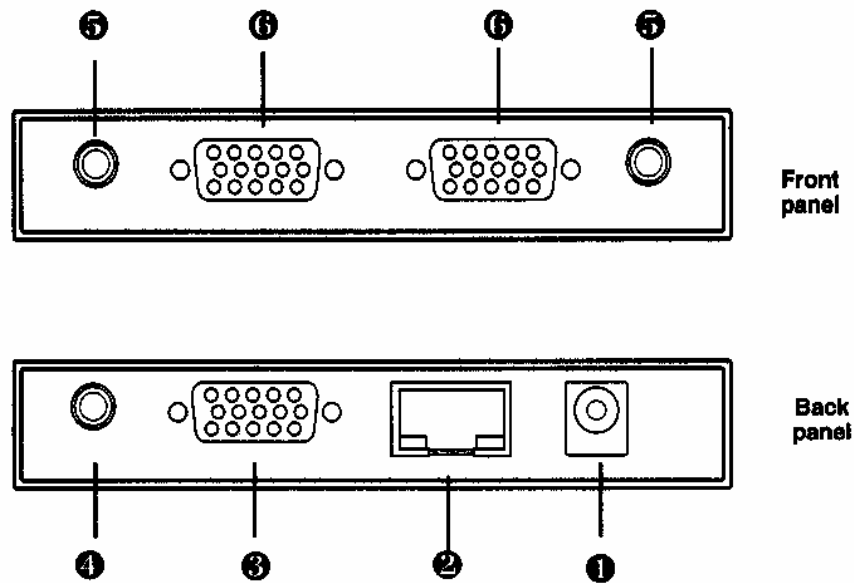
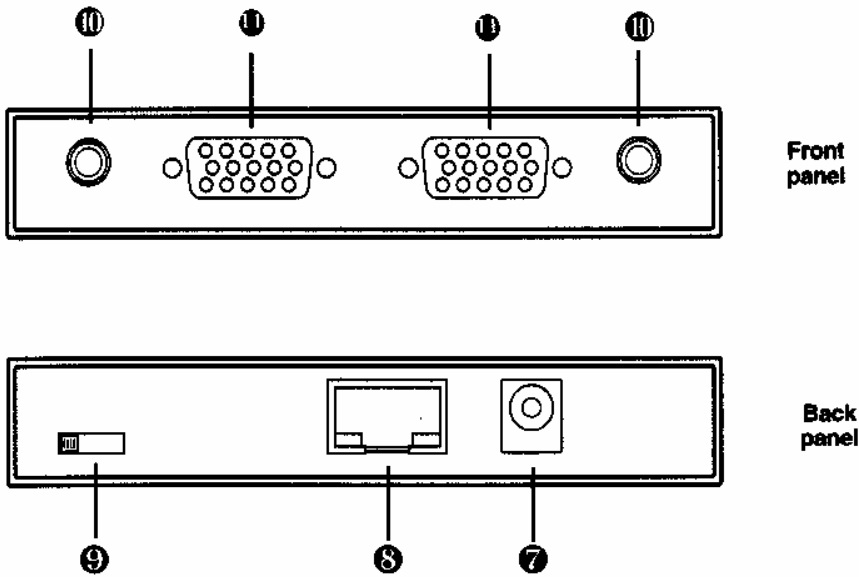

Figure 2-1. VGA Extender with Audio, local unit.
Figure 2-2. VGA Extender with Audio, remote unit.
The AC556A local and remote units are pictured in Figures 2-1 and 2-2. Tables 2-1 and 2-2 list the descriptions identified by the circled numbers in Figures 2-1 and 2-2.
You'll need one local and one remote unit (both are included), a VGA source such as a monitor (not included), Category 5, 5e, or 6 cable (not included), and power supplies (one for each unit, included). Follow the steps listed on the next page and refer to Figures 2-1, 2-2, and 3-1 as you install the extenders.
2. Using VGA cable, connect the local unit's HD15 input connector (labeled ③ in Figure 2-1) to the VGA source (for example, a monitor).
3. Using the monitors' cables, connect two output monitors to the local unit's HD15 output connectors (labeled ④ in Figure 2-1).
4. Using audio cable, connect the local unit's audio input connector (labeled ❶ in Figure 2-1) to the VGA source's audio connector. (This step does not apply to the AC555A; it does not support audio connections.)
5. Connect the local unit's two audio output connectors (labeled ❷ in Figure 2-1) to two sets of speakers. (This step does not apply to the AC555A; it does not support audio connections.)
6. Using the monitors' cables, connect two output monitors to the local unit's HD15 output connectors (labeled ❸ in Figure 2-2).
7. Connect the remote unit's audio input connectors (labeled ❹ in Figure 2-2) to the VGA source's audio connectors. (This step does not apply to the AC555A; it does not support audio connections.)
8. Using Category 5, 5e, or 6 cable, connect the local unit's CAT5 output port (labeled ❺ in Figure 2-1) to the remote unit's CAT5 input port (labeled ❻ in Figure 2-2).
9. Connect each unit's power supply to its power supply connector (the local power connector is labeled ❶ in Figure 2-1, and the remote power connector is labeled ❷ in Figure 2-2).
Adjust the Equalizer selector switch on the remote unit (labeled ⑨ in Figure 2-2) for optimum video signals for various cable lengths. Choose from the four lengths listed in Table 4-1.